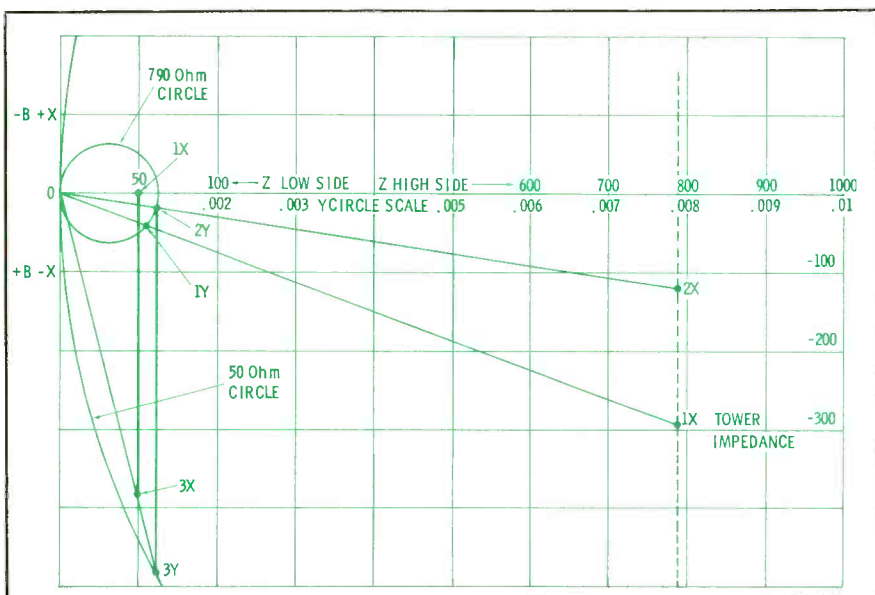

Fig. 1. Impedance and admittance graph for matching the 340' tower to 50 ohms.
Step 3. Draw an impedance admittance graph as shown in Fig. 1 and 2, as follows: